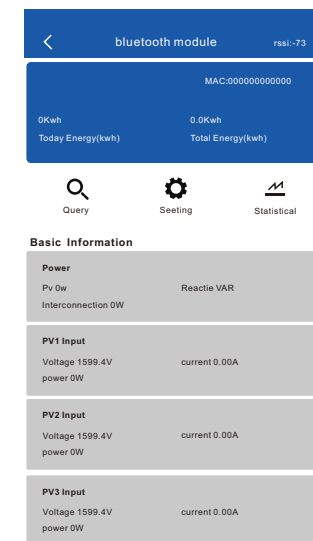

Fig.13
- ④. Click the name of bluetooth in the list and connect bluetooth, and it enters the interface in Figure 13 after successful connection. This page will display the basic information of the device, and users can view and set the information by clicking the icons of query, settings and statistics on this page.